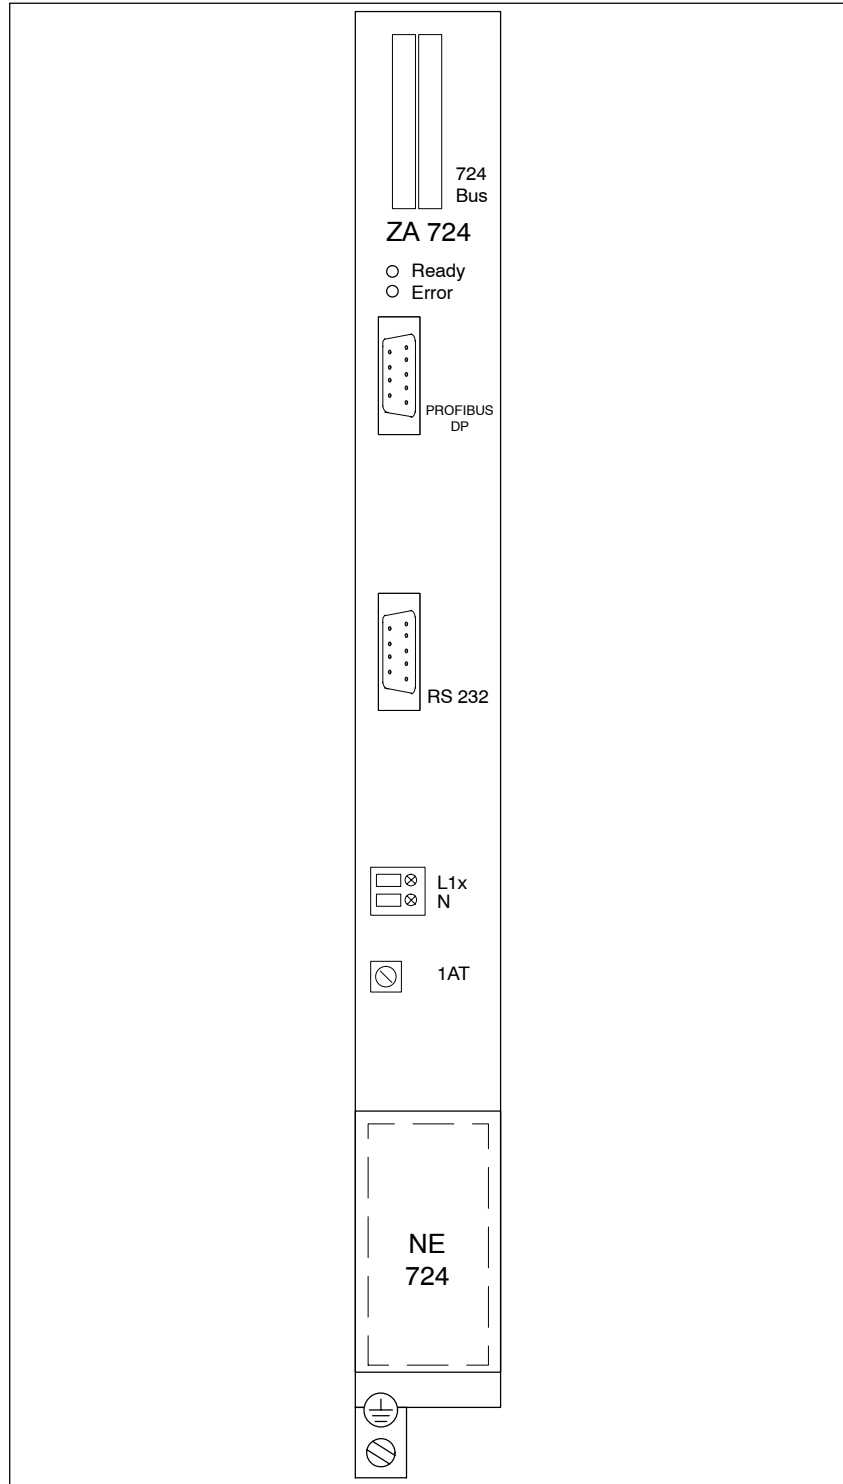

Figure 2-1 Front view of the ZA 724
Figure 2-1 shows a view of the front of the central interface (ZA). The ZA contains the following components.
The ZA 724 has five plug connections (see table 2-1) and On insert slot for the optional system power acquisition device NE 724 (see also figure 2-1) all of which are listed below.